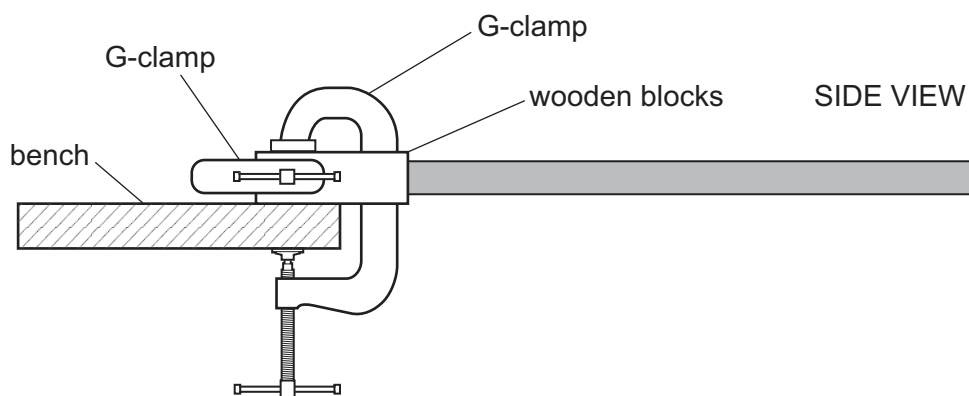

**Figure 2.2**
• Clamp the wooden blocks to the bench as shown in Figure 2.2.